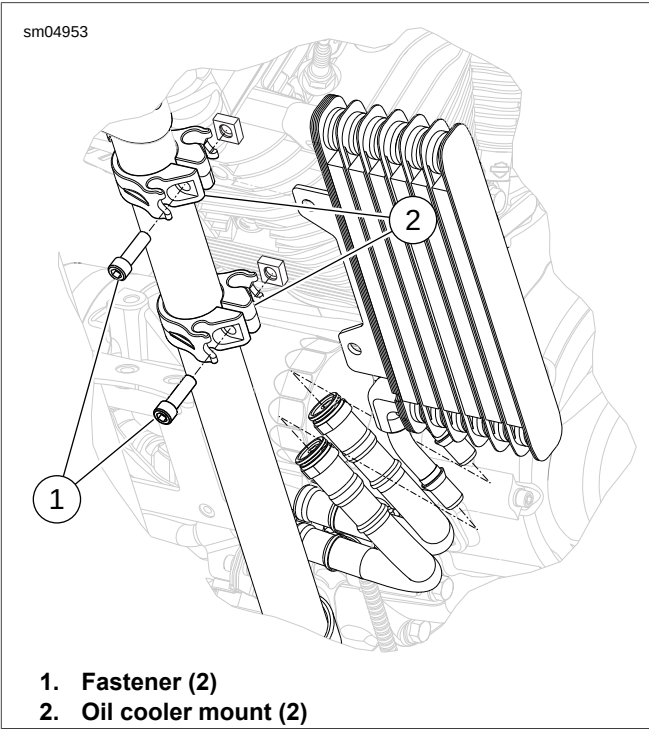

Figure 3-37. Oil Cooler Mounts
- 4. See Figure 3-37. Remove fasteners (1) securing oil cooler to frame brackets.
- 3. See Figure 3-37. Secure oil cooler to frame brackets. Tighten fasteners (1) to 36-60 **in-lbs** (4.1-6.8 Nm).